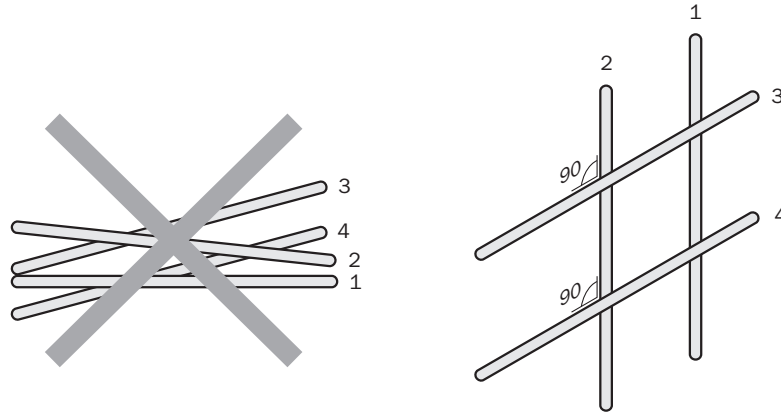

Figure 14: Cross cables at right angles
- ▷ Cables in groups 1, 2 and 3, 4 must be crossed at right angles, see figure 14.